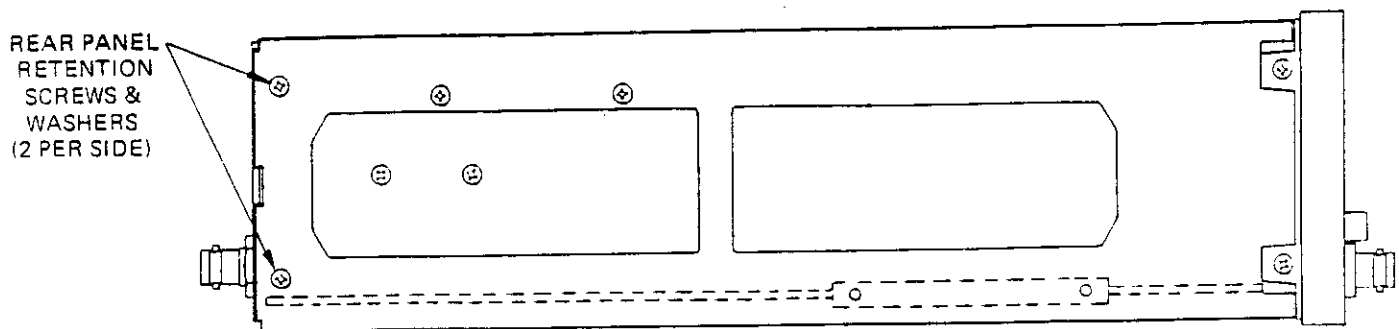

Figure 6.9 - Rear-Panel Retention Screw Removal
- c. Remove the two screws and washers (2 each/side) securing the rear panel to each side frame of the instrument. See Figure 6.9